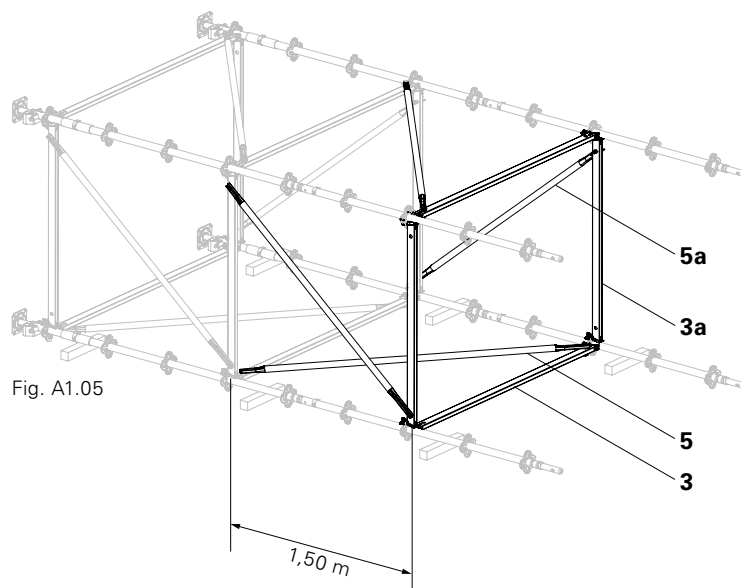

Fig. A1.05
- Mount the bottom-positioned Ledger Brace (5) from the inside.
- Mount the remaining Ledger Braces from the outside. (Fig. A1.05)